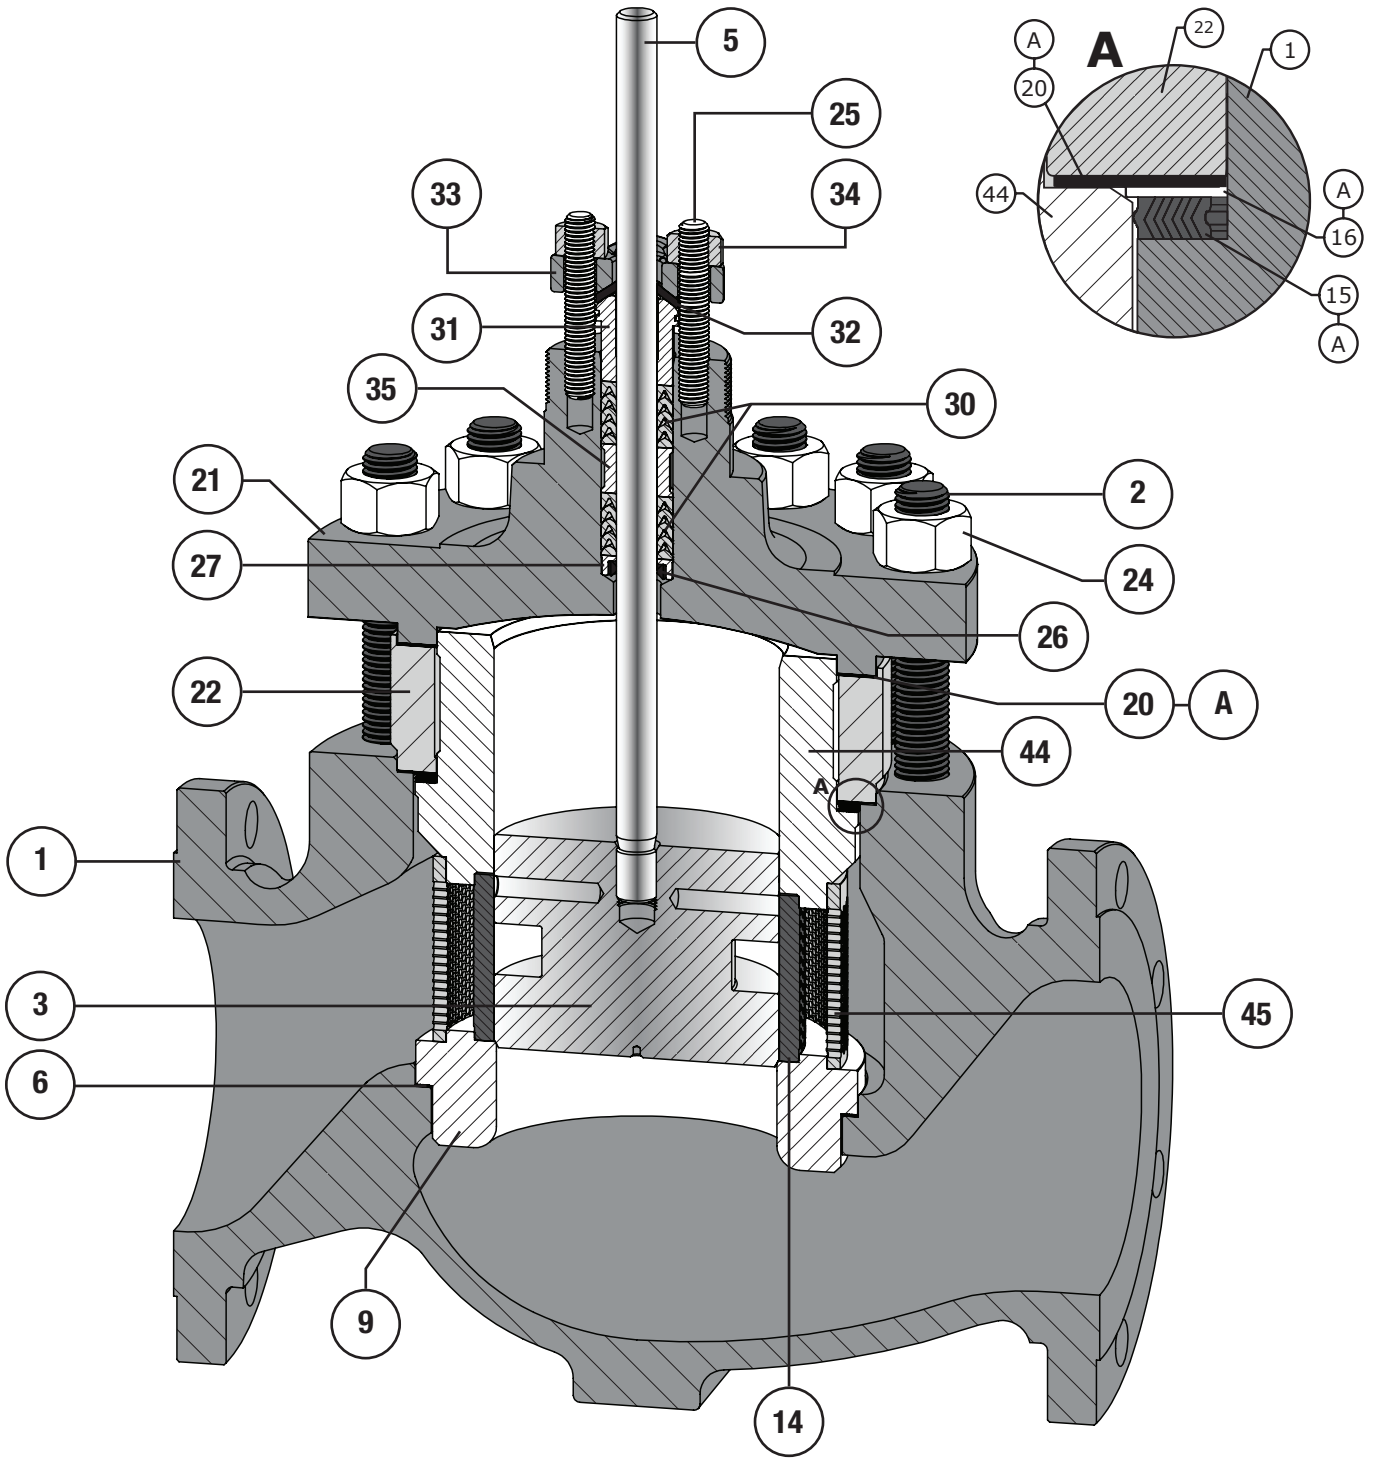

Figure 26 Low-Noise Valve Assembly with Bonnet Spacer Diagram
- 4 Install the cage (Key 14). Install the baffle (Key 45) and cage retainer for Low-Noise trim, refer to Figure 26 for Low-Noise trim.
For Low-Noise Valves: Install the bonnet spacer (Key 22) as shown in Figure 26. Apply nickel anti-seize (Key A) to the gasket seating surface of the bonnet spacer and top surface of the bonnet gasket (Key 17) and install. For 8 inch valves, install the load ring (Key 18).